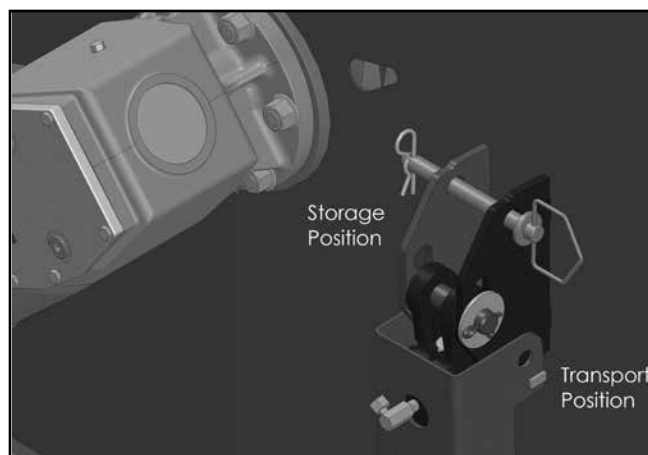

Figure 2. Transport Lock Pin
5. Lower cylinder against lock-up bars (Figure 2).